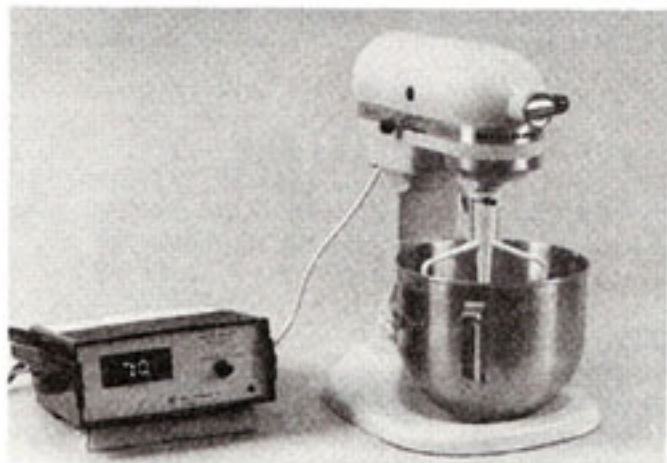

Fig. 1
- B. Before repairs are attempted on any KitchenAid mixer, a watt test should be made. To make the test, plug the wattmeter into the proper voltage (Fig. 1).